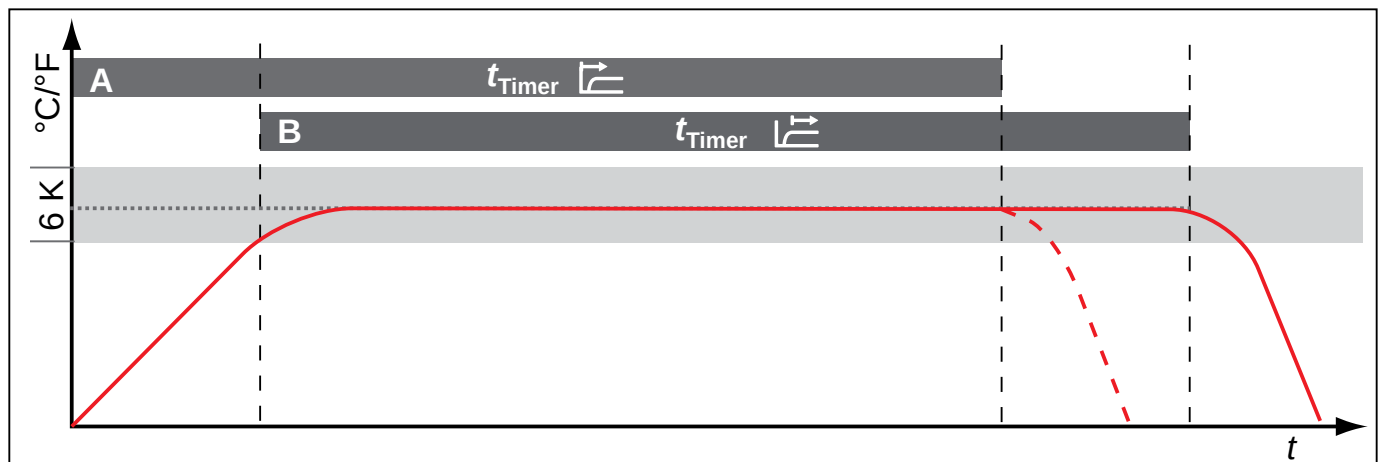

Fig. 19 Timer mode
Here, you can choose if the Timer (see page 22) should run setpoint-dependent or not. This determines whether the timer should not start until a tolerance band of ± 3 K around the set temperature is reached (Fig. 19, B) or if it should start right after activation (A).